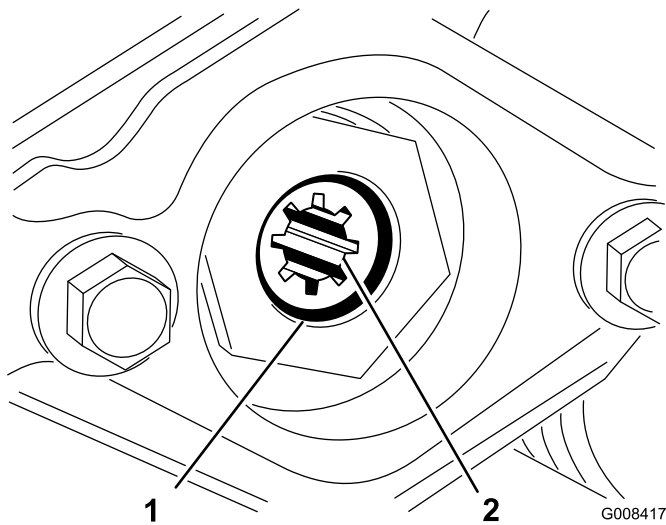

Figure 15
- D. Remove the snap ring securing the drive coupler in the reel tube (Figure 15). Remove the drive coupler.